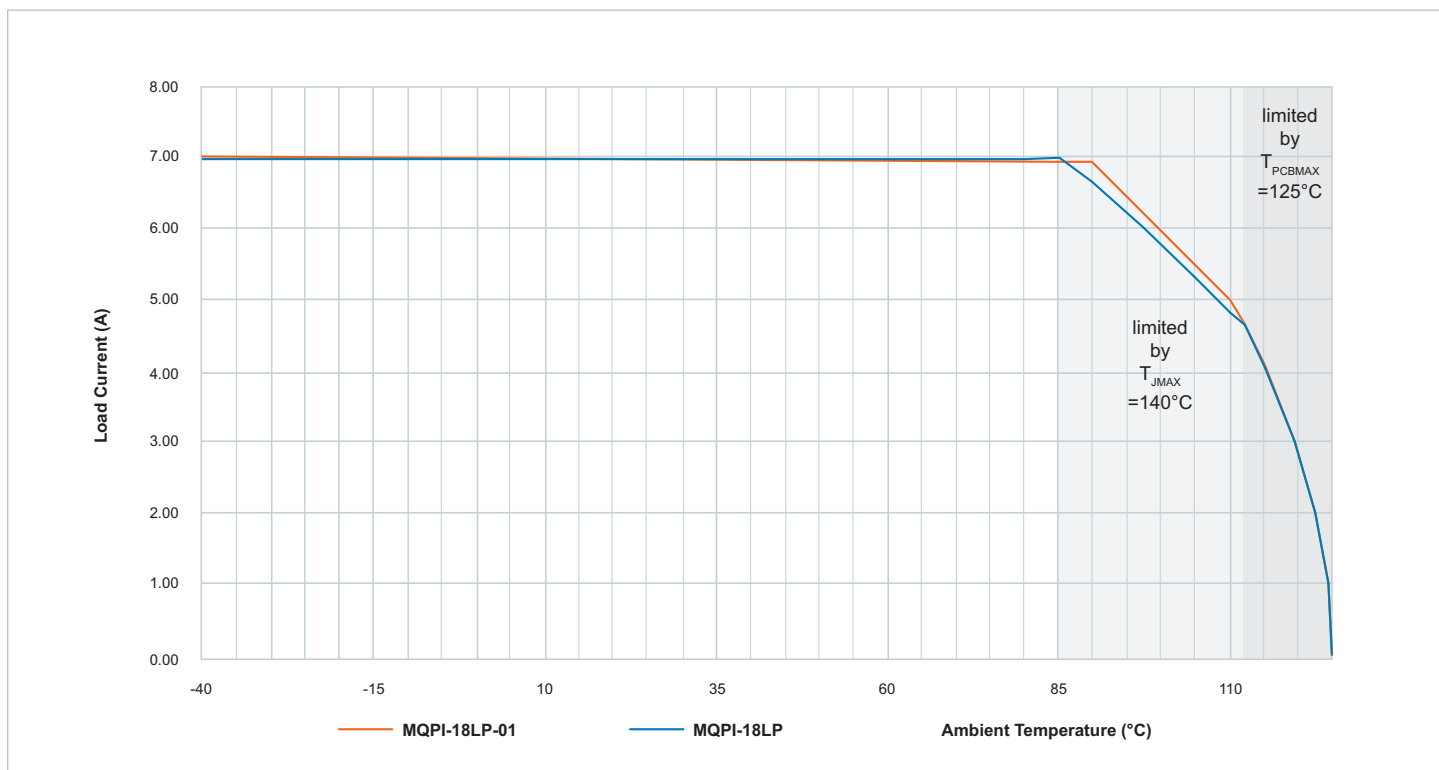

Figure 4 — Current de-rating over ambient temperature range
- -55° to +125°C PCB temperature (see Figure 4)
[2] See Figure 4 for the current de-rating curve.